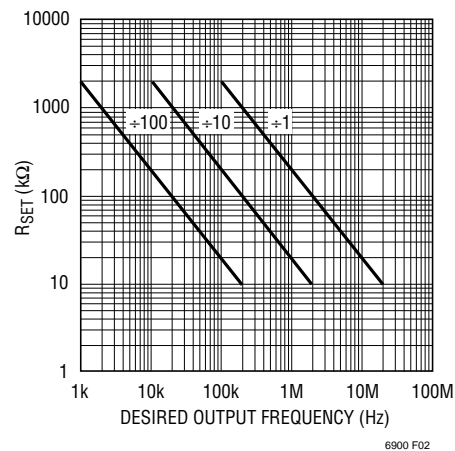

Figure 2. R_{SET} vs Desired Output Frequency
0.5V to select ÷1. This is the highest frequency range, with the master output frequency passed directly to OUT. The DIV pin may be floated or driven to midsupply to select ÷10, the intermediate frequency range. The lowest frequency range, ÷100, is selected by tying DIV to V⁺ or driving it to within 0.4V of V⁺. Figure 2 shows the relationship between R_{SET}, divider setting and output frequency, including the overlapping frequency ranges near 100kHz and 1MHz.